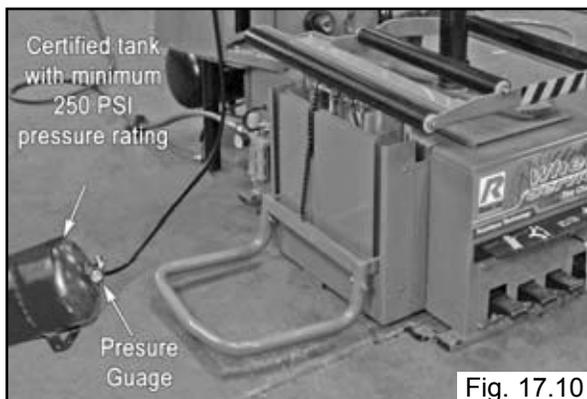

Fig. 17.10
2. Connect the inflation hose to an empty service tank with a pressure gauge (gauge should read 0). Use a certified tank with at least 250 PSI pressure rating. (See Fig. 17.10)